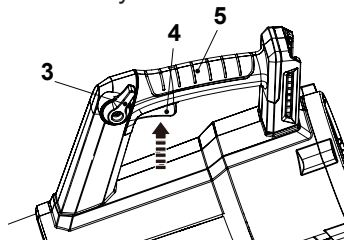

Fig. 5
1. Hold the product with one hand on the handle (5).
2. Switch the product on by squeezing the on/off switch (4) (Fig. 5).
3. Switch the product off by releasing the on/off switch (4).